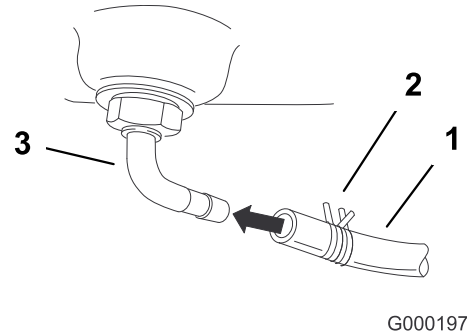

Figure 5
4. Slide the hose clamp onto the fuel line (Figure 5).
5. Push the fuel line onto the fuel tank connection and secure it with a hose clamp (Figure 5).